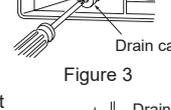

Figure 4
- Insert the drain hose fully into the drain pan at the rear right of the indoor unit. (Figure 4)